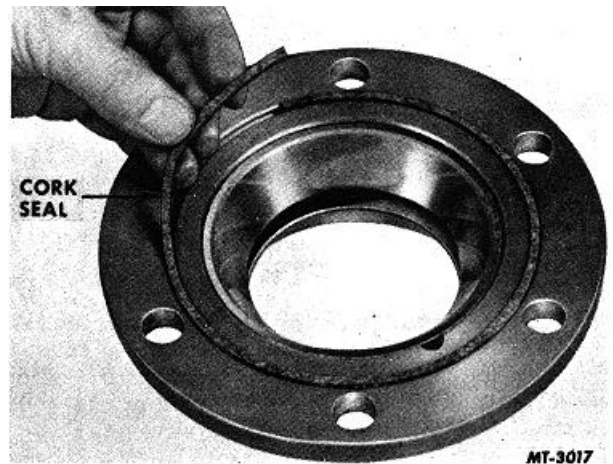

Fig. 19 Removing Pinion Cage Seal
6. Remove cork seal from pinion cage, Fig. 19. (This seal should be replaced at every disassembly.) If the pinion cage assembly is the type which is removed from the carrier by means of puller screws, remove the oil seal from bearing cover.